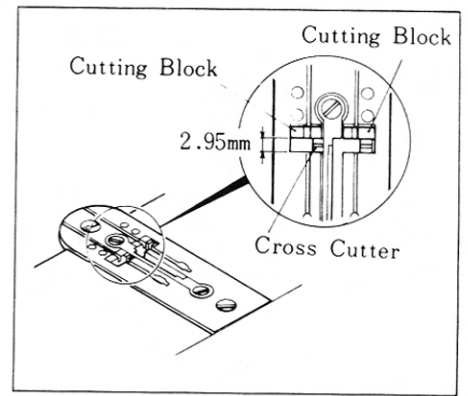

Figure 9a
4. Adjustment for Bobbin Thread Cross Cutter (Figures 9a and 9b)